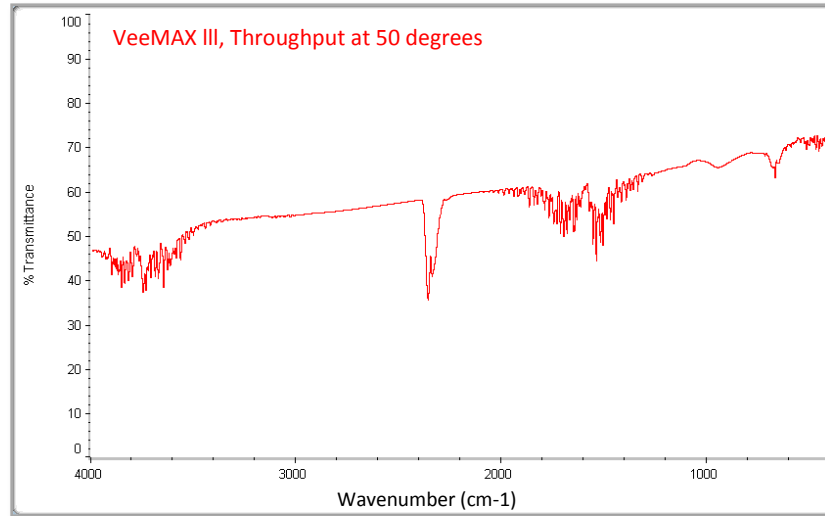

Figure 3. Throughput spectrum for VeeMAX III at 50° angle of incidence
12. Re-install the VeeMAX III accessory set at 50° angle of incidence with the 2" sample mask and gold alignment mirror on top of the mask and collect a sample spectrum. The ratioed spectrum will appear similar to the spectrum shown in Figure 3. Place the spectrum cursor over the spectrum at 1000 cm⁻¹. The measured value at this position should be greater than 40%. In the spectrum shown in Figure 3 the value is 58%.